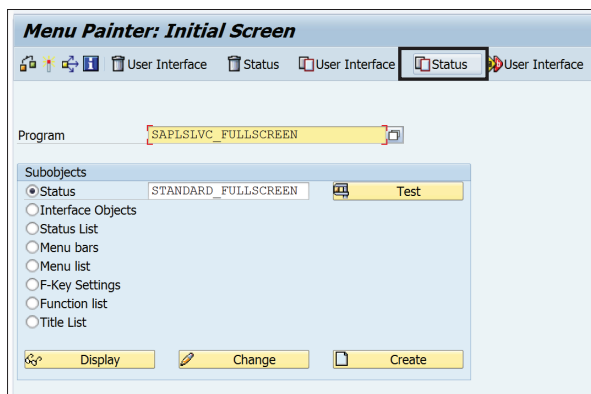

Figure 15.9 Menu Painter: Initial Screen
1. On the MENU PAINTER initial screen (Transaction SE41), enter the name of the function group, `SAPLSLVC_FULLSCREEN`, and the SAP GUI status, `STANDARD_FULLSCREEN`, that you intend to copy, as shown in Figure 15.9. Click the **COPY STATUS** button in the application toolbar.